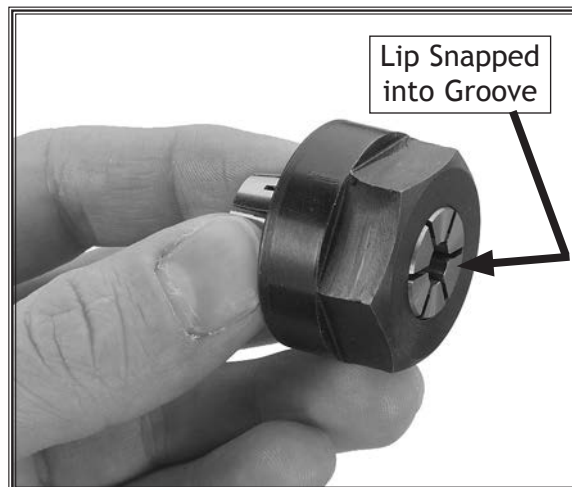

Figure 28. Router bit collet in collet nut.
2. Push the collet into the collet nut until the off-center lip of the collet nut snaps into the collet groove. See **Figure 28**.